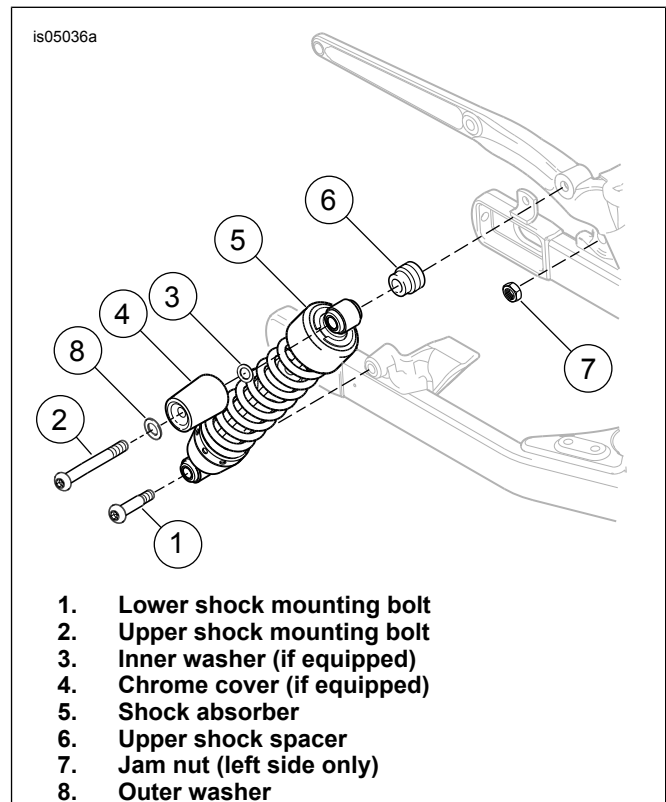

Figure 1. Remove Stock Shock Absorber (2006-2007 Models)
1. See Figure 1. Remove lower shock mount bolt (1) and jam nut (7) (only used on left side). Save jam nut for installation.
2. Remove upper shock mount bolt (2), outer washer (8), chrome cover (4), inner washer (3), shock absorber (5) and spacer (6).
3. Discard chrome covers, (if equipped) and all hardware except jam nut (7).